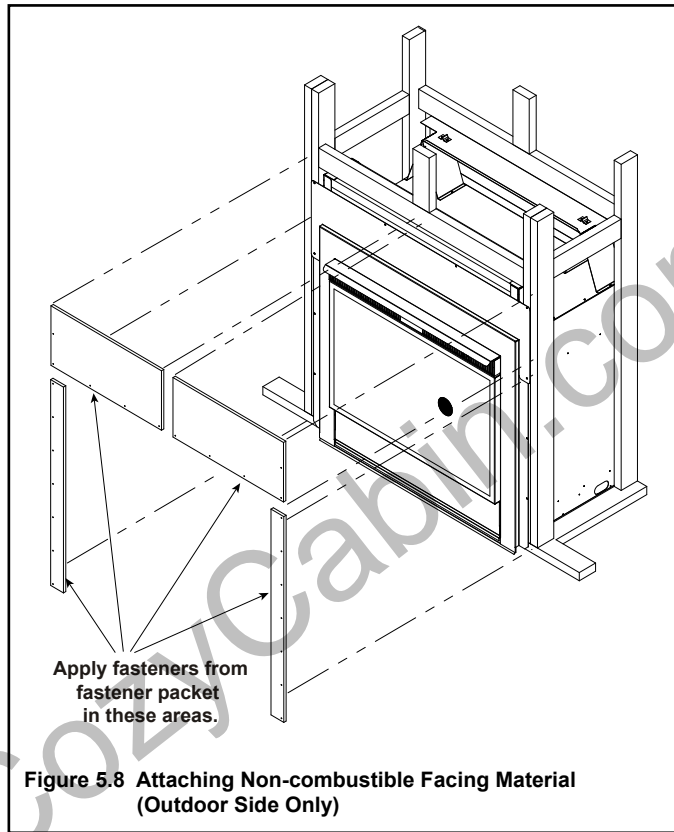

Figure 5.8 Attaching Non-combustible Facing Material (Outdoor Side Only)
- Center and attach two top boards (the two shorter pieces) to the framing members. See Figure 5.8.
- Attach the left and right side pieces to the framing members. See Figure 5.8.